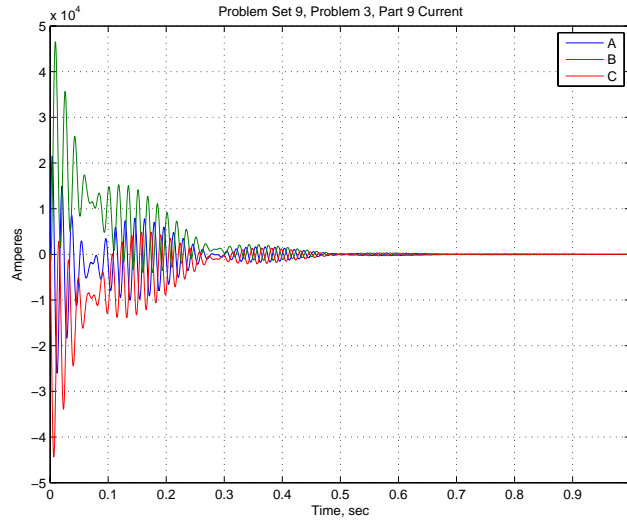

Figure 7: Synchronizing out of Phase: Phase Currents
8. The last part of this is synchronization out of phase by 20 degrees. This requires the full, seven state simulation, and we can use the same integration routine we used in the previous part. The initial conditions are the same as for the fault simulation, with the added value of $\delta_0 = \pi/9$ and ω_0 . Of course, mechanical torque must be set to zero. The results are shown in Figures 7 through 9.